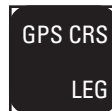

Figure 5-112
1. Locate the external switch in the panel of the aircraft. An example of an external switch annunciator is shown in figure 5-112.